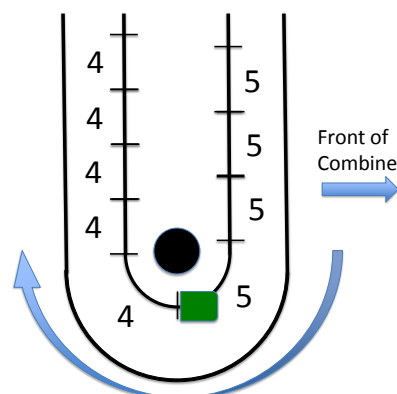

Figure 5a
Step 5: Ensure Grain Property Bucket is in the correct location. Rotate the chain and locate the multiple sections of 5 pitch intervals. To find 5 link intervals, look for half links (Point "A" at right) and also count the number of pins between paddles. Mark or remove the paddle that separates the 4 pitch to 5 pitch sections, then rotate the chain around one full revolution of the elevator to confirm that you have marked the correct paddle. (Figure 5a and 5b)